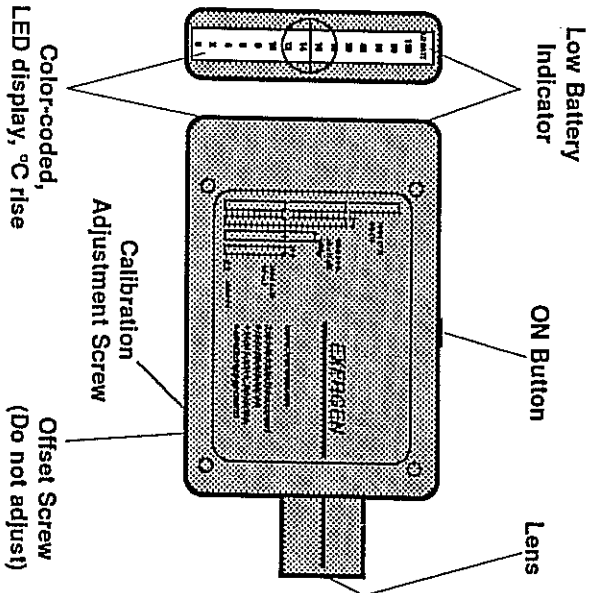

Figure 2. The Microscanner E
4. Lift off the piece of tape or plug to access the second screw from the front of the instrument (see Fig. 2 on pg. 5). Do not turn the first screw (Offset adjustment), use the second screw adjustment only.